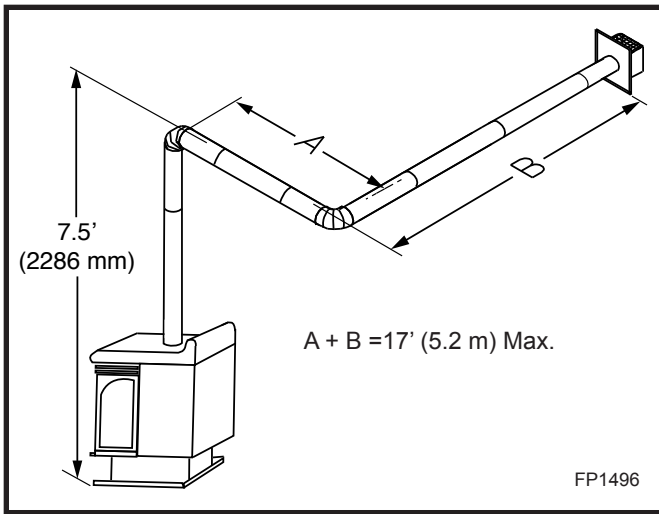
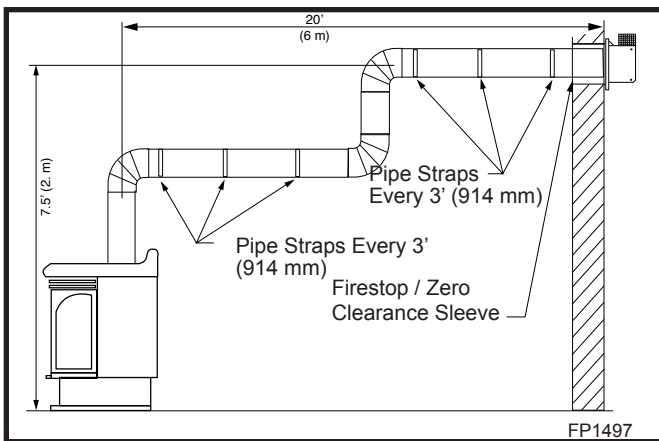

Fig. 10 90° elbow used in horizontal vent run.
Fig. 11 90° elbow used to increase height.
- If a 90° elbow is used in the horizontal vent run (level height maintained) the maximum horizontal vent length is reduced by 36" (914 mm). (Fig. 10) This does not apply if the 90° elbows are used to increase or redirect a vertical rise. (Fig. 11)